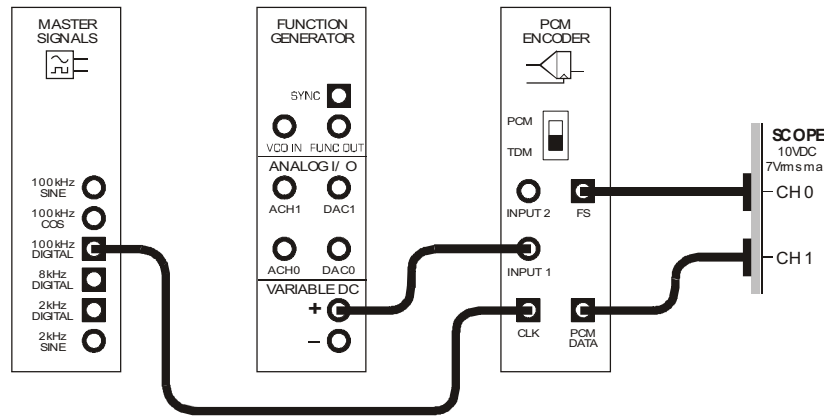

Figure 1
12. Connect the set-up shown in Figure 1 below.